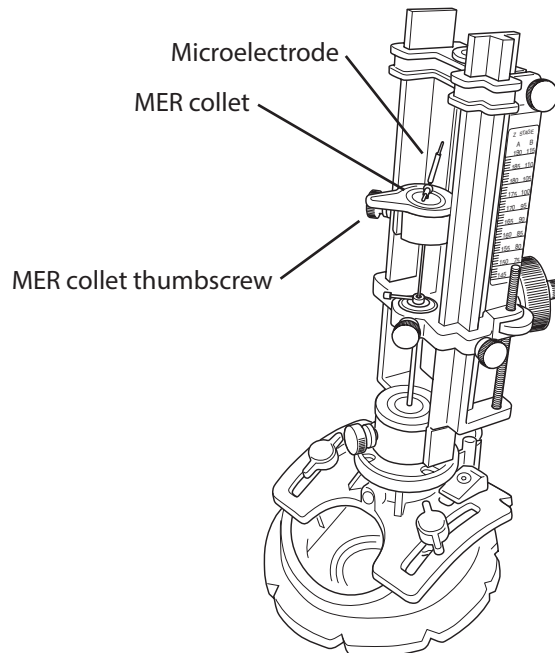

Figure 25. Insert the MER collet and the microelectrode. Tighten the MER collet thumbscrew.
5. Insert the MER collet and insert the microelectrode into the spacer tube until head of microelectrode rests on collet. Extend microelectrode tip, tighten the MER collet thumbscrew (Figure 25).